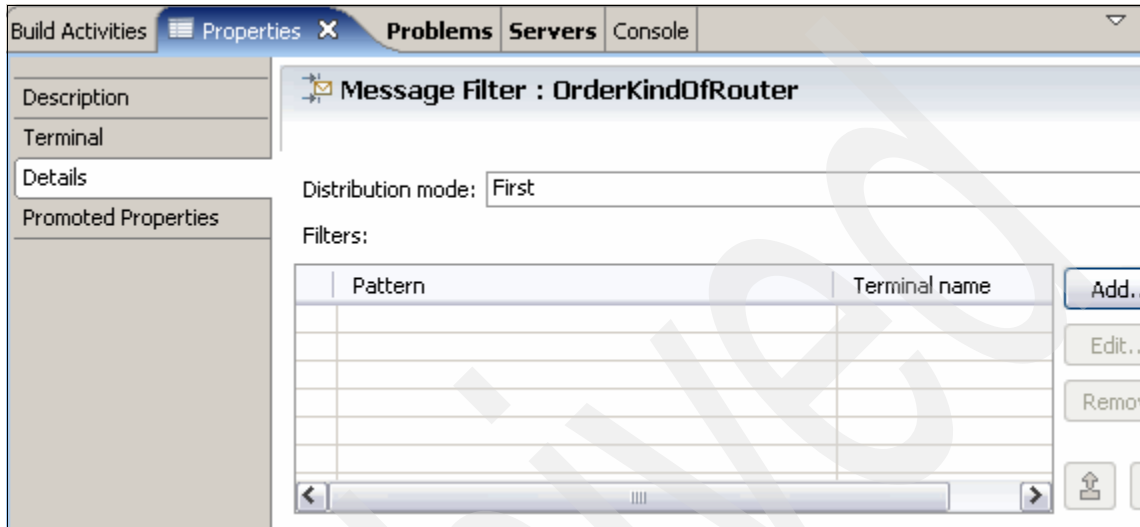

Figure 4-43 Distribution mode for OrderKindOfRouter
2. Select the **OrderKindOfRouter** and in the Details pane in the Properties view (Figure 4-43):